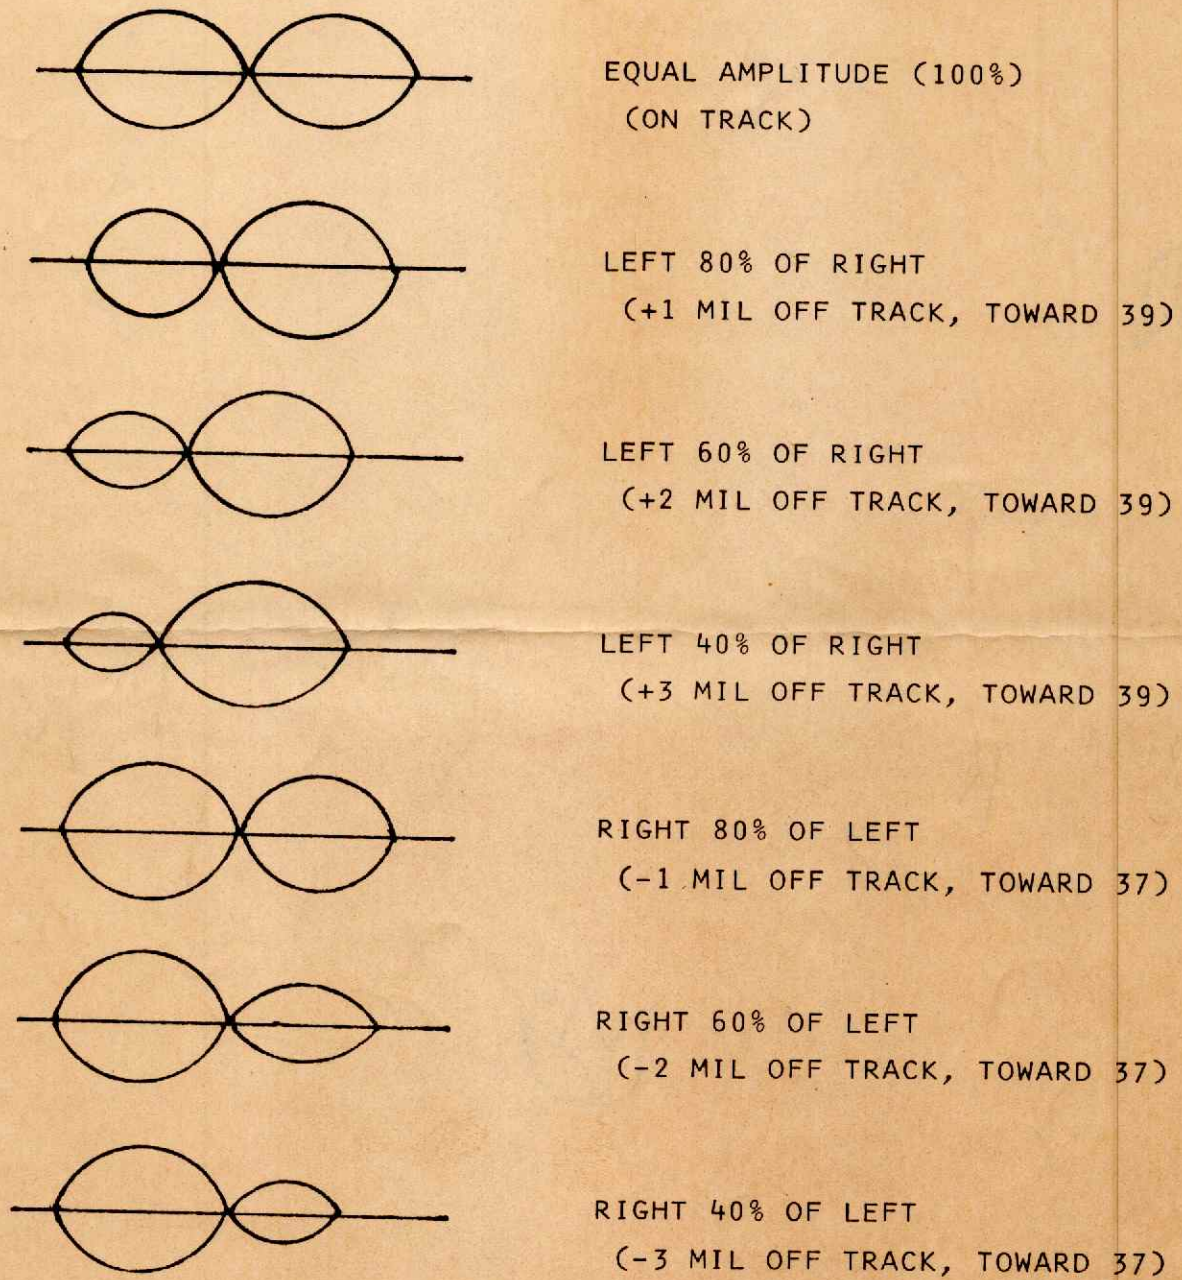

FIGURE 1
- E. The two lobes displayed should be within 80% amplitude of each other. (See Figure 1) if the lobes do not fall within this specification, continue to F.